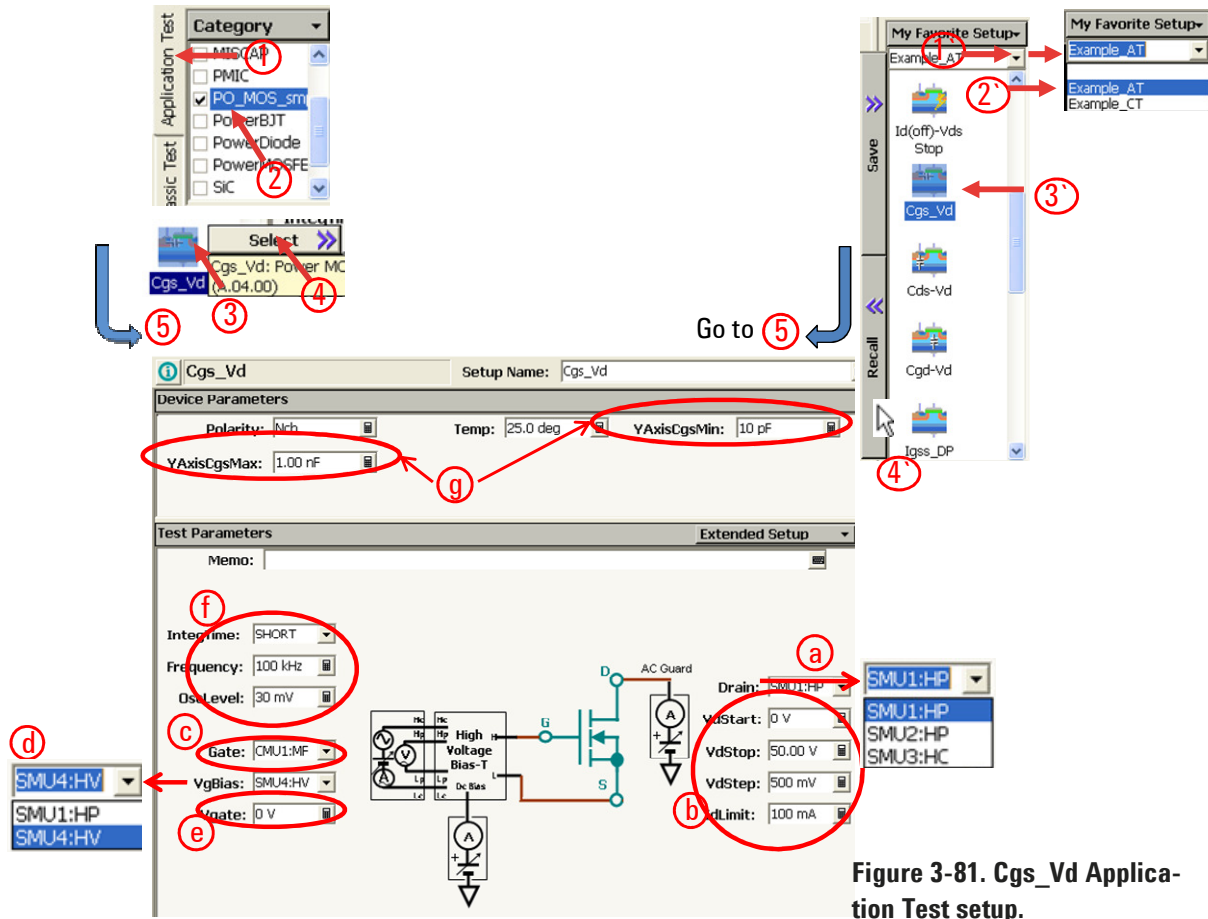

Figure 3-81. Cgs\_Vd Application Test setup.
Setup and execute the test by following the next steps. The same instruction steps are illustrated by the numbers on the "1. Starting from Application Test Library" side of figure 3-81.
Step 5. Set the test parameters shown in figure 3-81 to an appropriate one depending on your B1505A configuration and your test device.